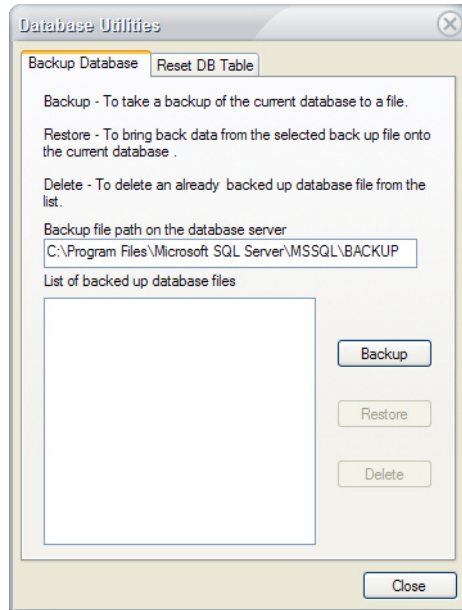

Figure 4-52: AirMagnet Database Utilities
- 1) From the Enterprise Console screen, click **Manage>Database....** The **Database Utilities** dialog box appears. See Figure 4-52.